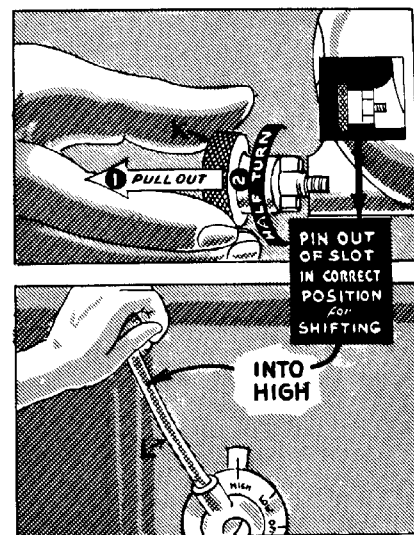

FIG. 84
in the faster series has been selected and when light cuts are to be made. Then move the starting lever to its "High" position, after the job setting has been completed and the machine adjustments have been made. Fig. 84.
5. Start the shaper with lever (L), (Fig. 84), after making certain that both the tool and the ram will clear all parts of the job.